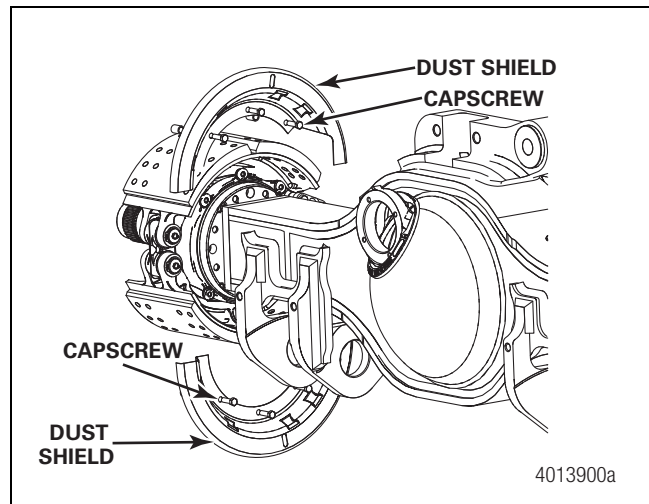

Figure 3.8
9. If equipped, remove the mounting bolts from the brake dust shields and remove the dust shields. Figure 3.8.